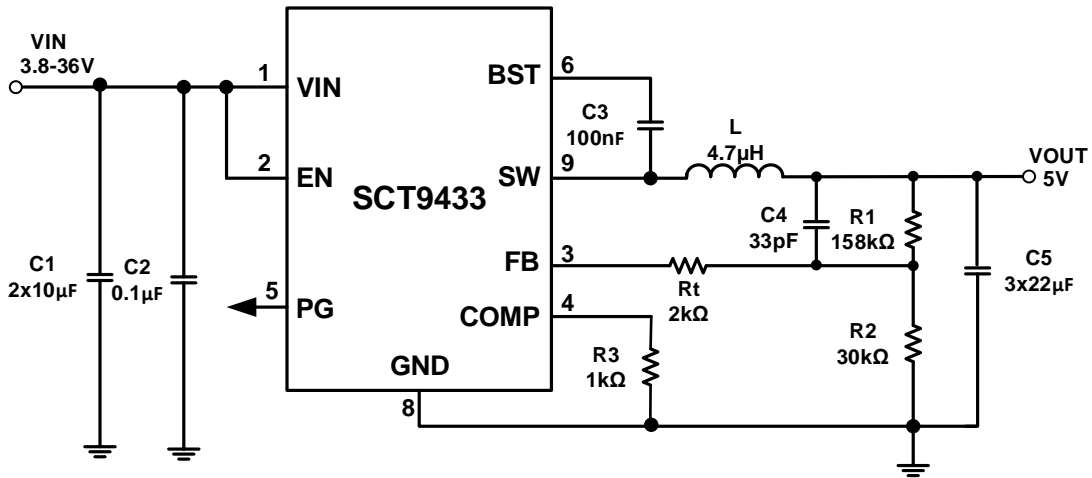

Figure 9. 12V Input, 5V/3A Output with Internal Compensation
The SCT9433 features external programmable output voltage by using a resistor divider network R1 and R2 as shown in the typical application circuit Figure 9. Use equation (11) to calculate the resistor divider values.